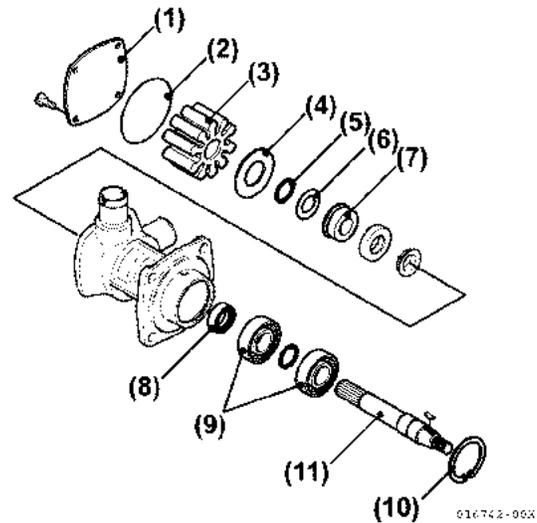

Figure 7-35
4. Remove four bolts, side cover (Figure 7-35, (1)) and O-ring (Figure 7-35, (2)).
5. Remove the impeller (Figure 7-35, (3)) and wear plate (Figure 7-35, (4)) from the housing.
6. Remove retainer, washer and mechanical seal (Figure 7-35, (5), (6), (7)).
7. Using pliers from drive gear side, remove retainer (Figure 7-35, (10)) which holds bearings (Figure 7-35, (9)).
8. Lightly tap pump shaft from impeller side and remove shaft and bearings as a set (Figure 7-35, (11), (9)).
9. Remove lip seal (Figure 7-35, (8)) and mechanical seal if necessary.
- Note: When installing the new impeller, rotate the impeller clockwise to bend the vanes in the direction of rotation (Figure 7-35, (3)).
15. Install a new O-ring (Figure 7-35, (2)) and hold it in the groove using petroleum jelly.